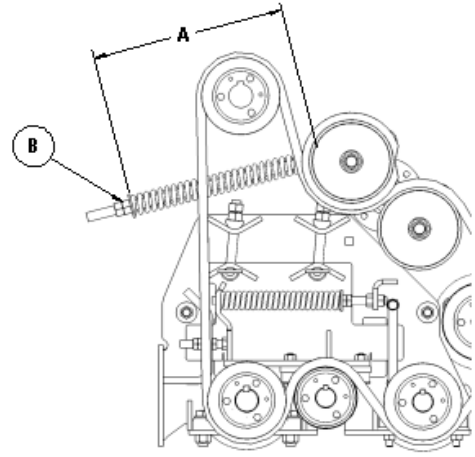

Figure 7-21: Front Drive Belt Adjustments
3. Adjust the nut (B), shown in Figure 7-21, until spring length (A) is 13.5 inches (34cm).
4. Lock double nuts (B).
2. Loosen nut (B), shown in Figure 7-21, until the belt is loose.
4. Tighten nut (B) until spring length (A) is 13.5 inches (34 cm).
5. Lock double nuts (B) and check the alignment of the sheaves.